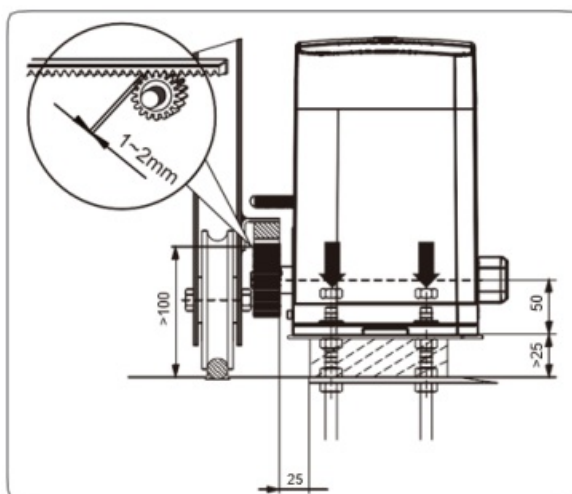

Fig 1.1
- The distance from the gate to the outer edge of the rack (i.e. the rack width) and to the datum line (see Fig. 1.1 and Fig. 1.2).
- Mark a line parallel to the face of the gate for the mounting holes. The distance from the gate is determined by the formula $(38\text{mm} + \text{Rack Width})$. (see Fig. 1.1).